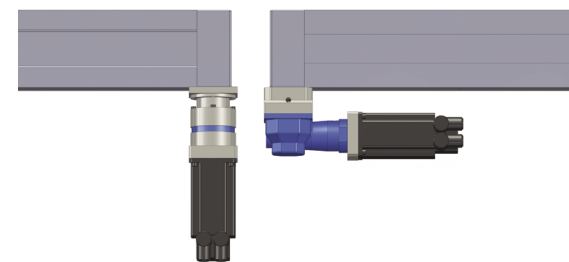

Figure 2: Using an inline gearbox (left) instead of a right angle gearbox (right), or vice versa, can reduce machine footprint.
- Can you use a right-angle gearbox instead of an inline gearbox – or vice versa? Changing one for the other can make the drive train more compact (figure 2).